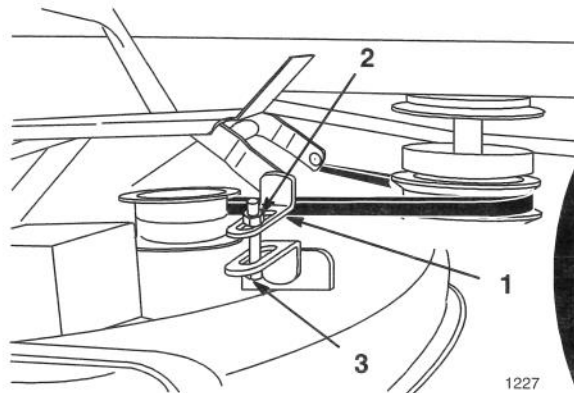

Figure 11
6. To adjust front-to rear blade level loosen jam nut on front adjustable link(s). (Fig. 11).
7. Rotate the bolt on front adjustable link to change front-to rear blade level (Fig. 11).